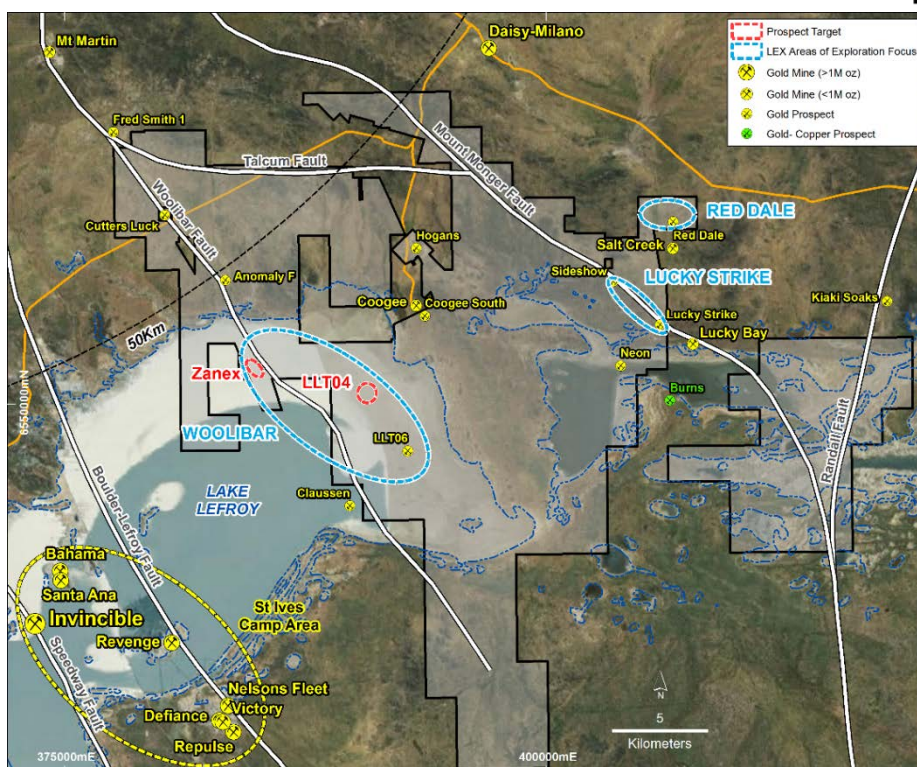

Figure 1-Lefroy Gold Project highlighting location of the Red Dale Prospect, and current exploration focus by LEX
The Board of Lefroy Exploration Limited (ASX: LEX) ("Lefroy" or "the Company") is pleased to announce the results from an initial reverse circulation (RC) drilling program at the Red Dale Prospect at its flagship Lefroy Gold Project ("LGP" or "Project"), located approximately 50km to the south east of Kalgoorlie (Figure 1).